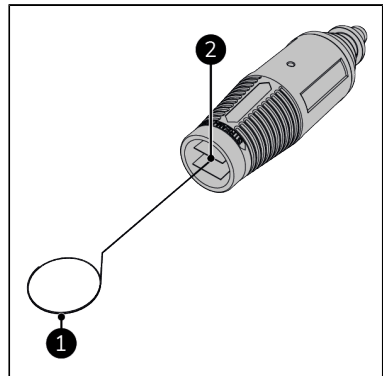

Figure 41.
3. Pull the nozzle (Figure 41, pos. 2) from the extension lance (Figure 25, pos. 2).
4. Clean the nozzle with the cleaning pin (Figure 41, pos. 1).